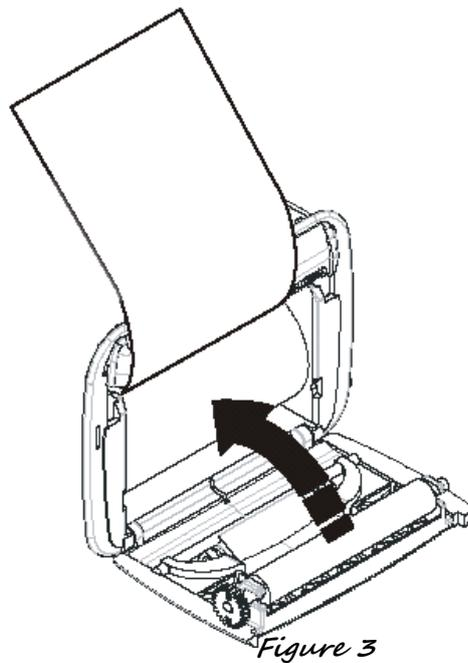

Figure 3
- Pull out some of the paper as shown in figure 3 and close the panel;